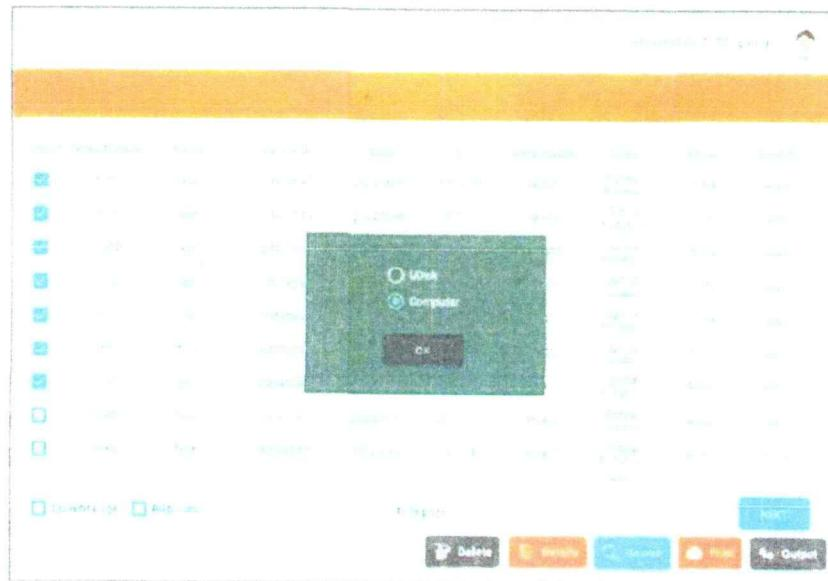

Fig 44
9. Check the data to be exported and click the "Export" button. In the dialog box shown in Fig 44 below, select "Computer" and click "OK" to complete the data export